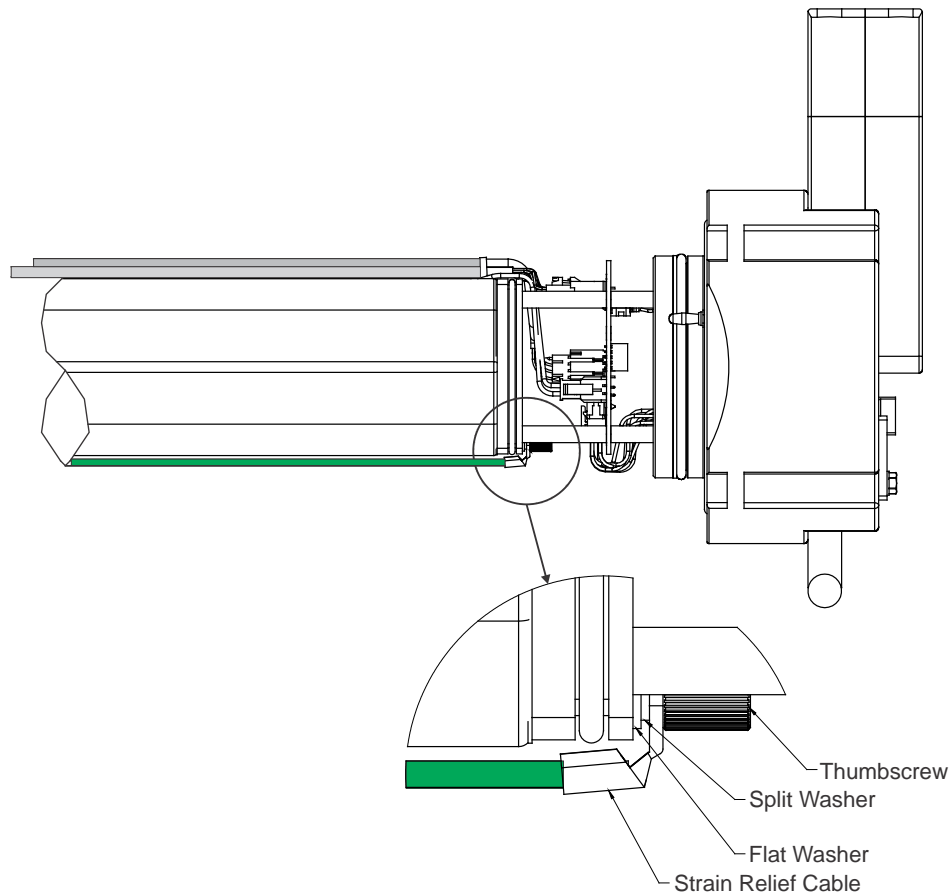

Figure 32. Disconnecting the Strain Relief Cable
10. Disconnect the strain relief cable (green wire) by removing the screw, washer, and split washer (see Figure 32).